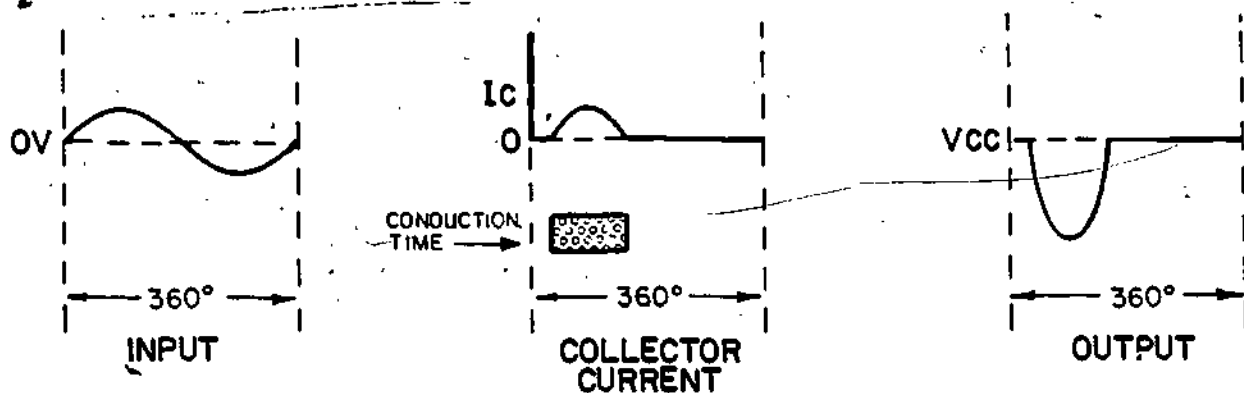
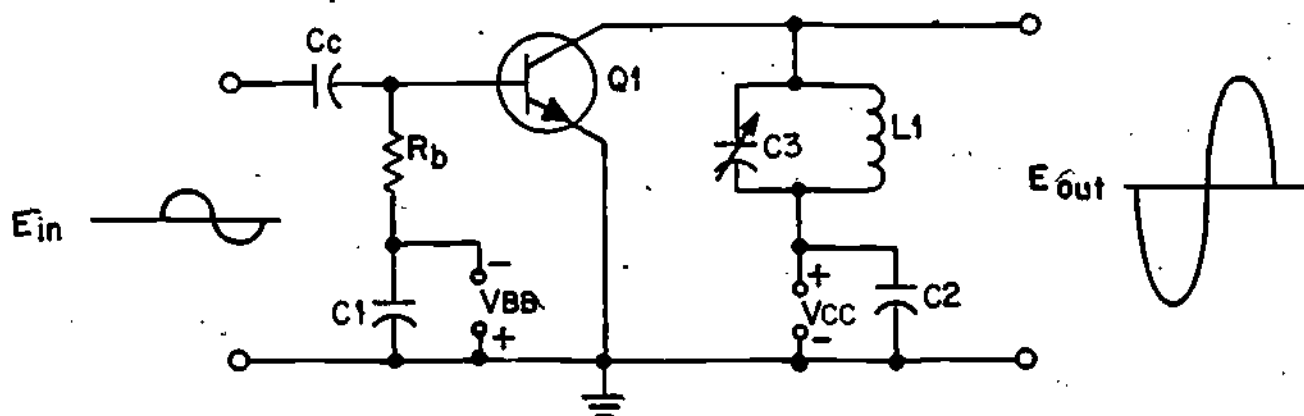

Figure 31
Figure 32
33. The concluding class of amplifier biasing is Class C. Figure 31 shows the operation of Class C amplifiers.
In Class C amplifiers, the transistor conducts for the shortest duration of the four amplifier classes. In the center diagram of Figure 31, the bar chart shows that the transistor conducts for less than a half of the input cycle, or about 120° . Class C amplifiers are reverse biased which causes the transistor to cutoff for over half of the input cycle. The output waveform in Figure 31 is the most distorted of all amplifier classes. However, Class C amplifiers are also the most efficient because they conduct for the shortest time duration.
34. It doesn't look like the voltage and current outputs of Class C amplifiers would do much good, does it? Now let's look at an actual circuit in Figure 32, and see how Class C bias is used.
In the figure you can see the reverse bias on Q1 as $-V_{BB}$. Therefore, you would expect the output signal to resemble class C as shown in Figure 31. However, as shown in Figure 32 the output signal actually looks like an amplified version of the sine-wave input signal.